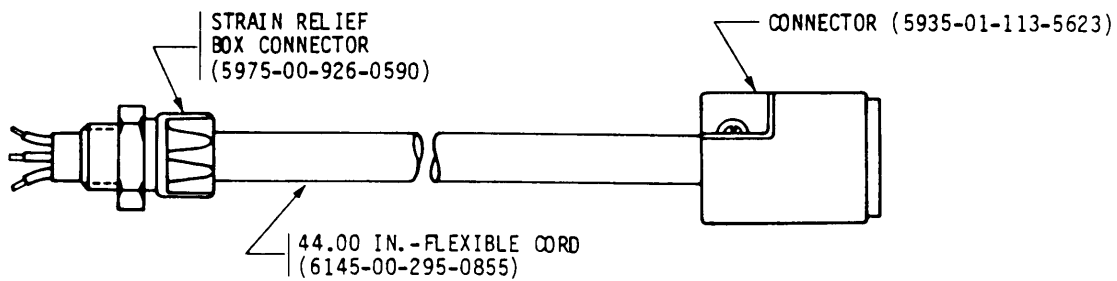

Figure 19. Power Cable Assembly, 11021163, Unit 1, M35A2.
(6) Remove two knockout slugs from each lampholder junction box (5975-00-440-2703) and each duplex junction box (5975-00-281-0090) in line with bows. Install sixteen strain relief box connectors (5975-00-926-0590) in the junction boxes and install jam nuts on strain relief box connectors.
(7) Make up four power cable assemblies (11021163, 11021164, 11021165, 11021166) in accordance with figures 19 thru 22 and install in accordance with figures 16, 17, and 18.